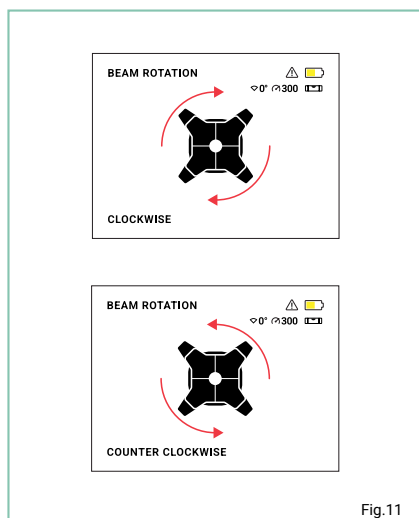

Fig.11
- The LCD screen will display the rotation direction as either 'clockwise' or 'counter clockwise' (Fig. 11)